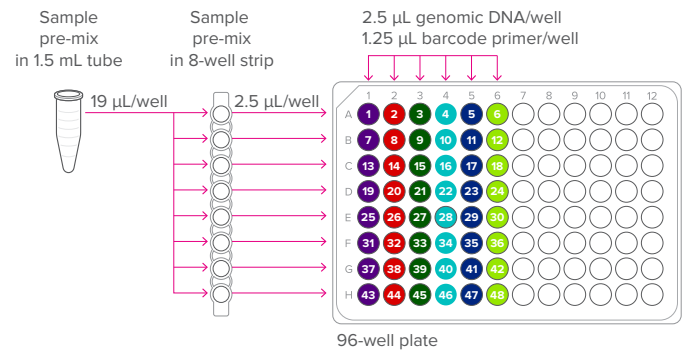

Figure 3. Preparation of sample mixes (per-well transfer volumes)
- 4 Pipet 19 μL of the sample pre-mix into each well of a new 8-well strip (see Figure 3).
- 2 In a DNA sample hood, prepare the sample mixes by pipetting the components shown in Table 5 into each well of a new 96-well plate. Pipet reagents and samples according to the diagram shown in Figure 3. Use an 8-channel pipette to transfer the sample pre-mix from the 8-well strip.